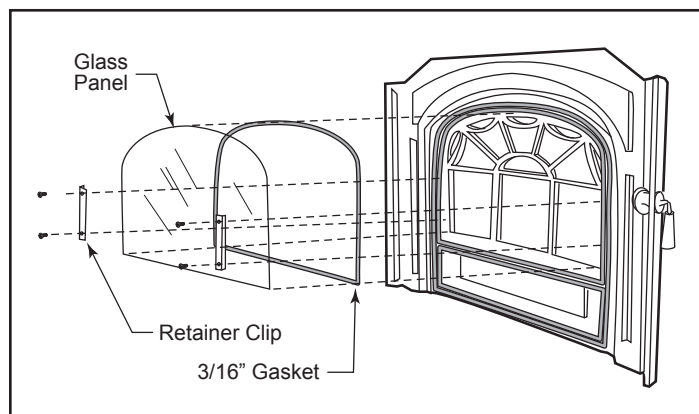

Figure 36 - Glass replacement.
- Open the door and carefully remove the glass by removing the two (2) clips (one per side) that hold the glass panel against the gasket in the arched door opening. Each clip is held in place with two (2) Phillips truss-head machine screws. (Figure 36)